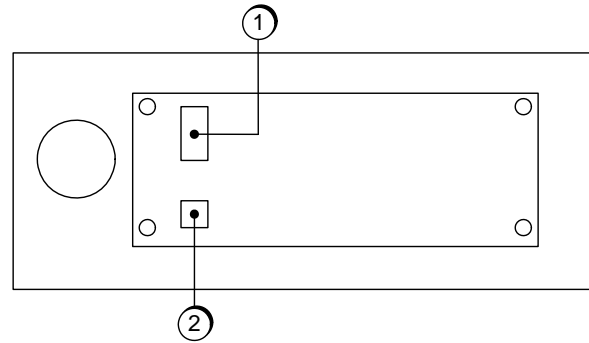

Figure 10: Back side of the display
4. Insert the 7-pin plug at the back of the display in the upper connector (see Figure 10, item 1).
5. Insert the plug of the joystick adapter cable in the lower connector (see Figure 10, item 2).